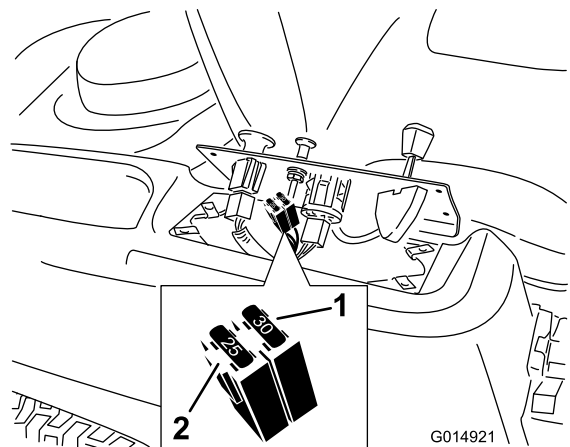

Figure 37
- Lift the control pane up to access the main wiring harness and fuse block (Figure 37).
- To replace a fuse, pull out on the fuse to remove it (Figure 37).